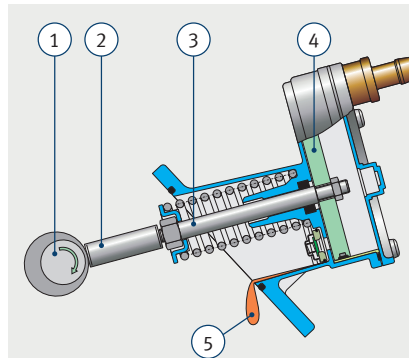
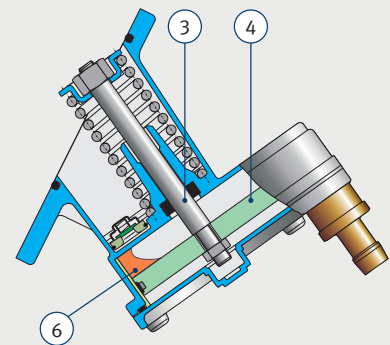

Fig. 1:
Fig. 2:
The piston vacuum pump is driven by the camshaft (1) through a connecting tappet (2). In the recommended installation position, the engine oil can flow back into the engine (Fig. 1). The installation position in the VW Transporter is as shown in Fig. 2.